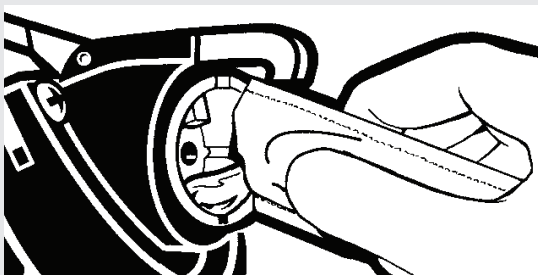

Figure 1.
- Free the perforated section in upper section of the box (near the locking tab that retained the lid), and bend it down to allow the hoses to enter into the two cutouts provided. (See figure 1)